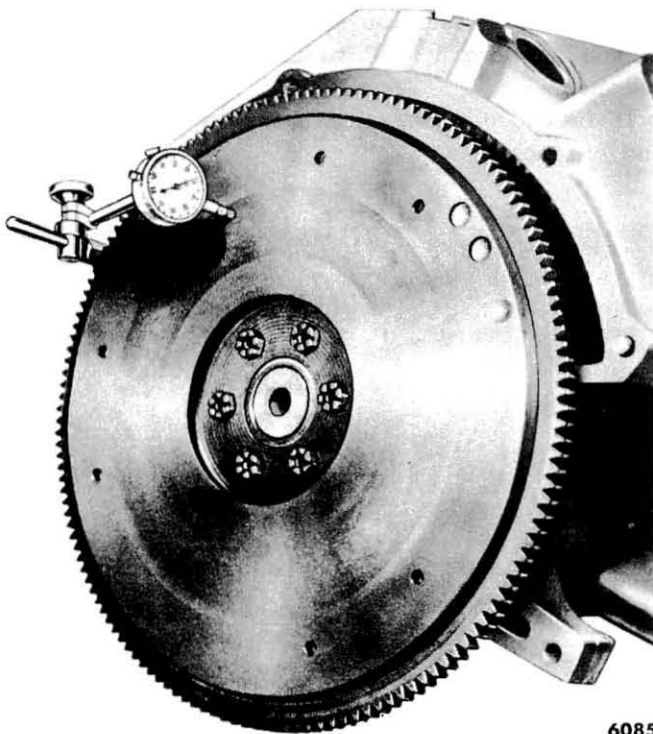

Fig. 30—Flywheel Runout Check
(1) **INSPECTION.** Check the flywheel face runout with a dial indicator (fig. 30). If the runout exceeds 0.005-inch, remove the flywheel, and check the runout of the crankshaft mounting flange. It will be necessary to remove the crankshaft if the flange requires machining.